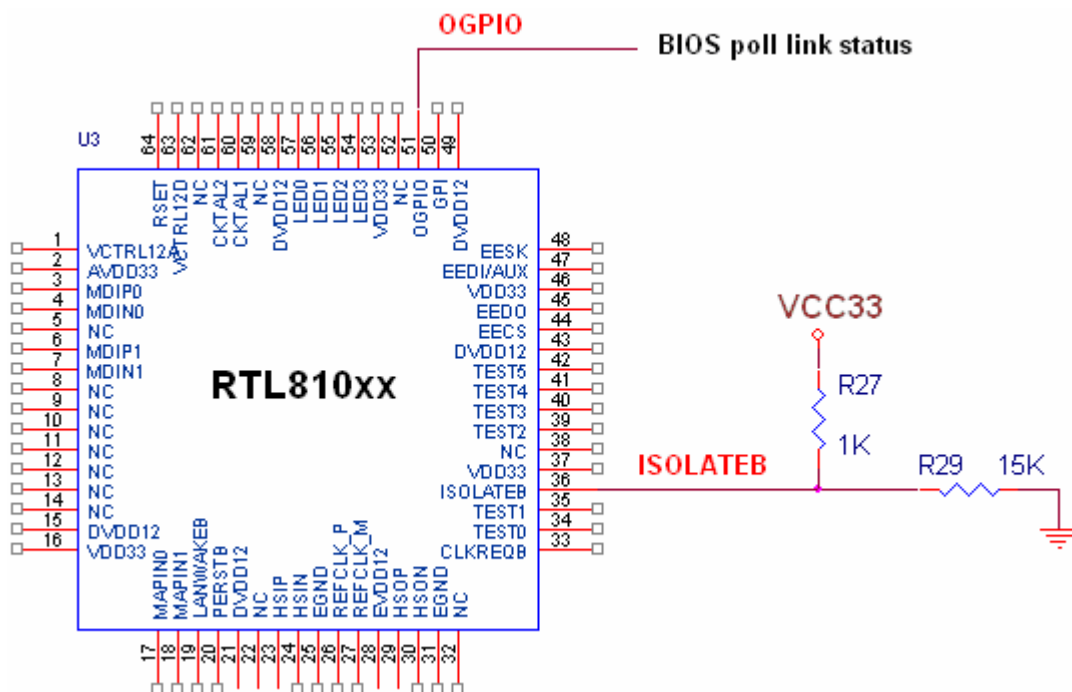

Figure 1. OGPIO and ISOLATEB Circuit
- When a cable is unplugged, the OGPIO will go from low to high The BIOS must set configuration space offset 0x44 to 03h first (the Ethernet Controller enters D3 state) and then cut off VCC33 (see Figure 1, page 2) and ask the local machine's OS to run a Hardware Scan, which will then remove the Ethernet Controller.
Step 4. Cut-off VCC33 (see Figure 1, page 2).